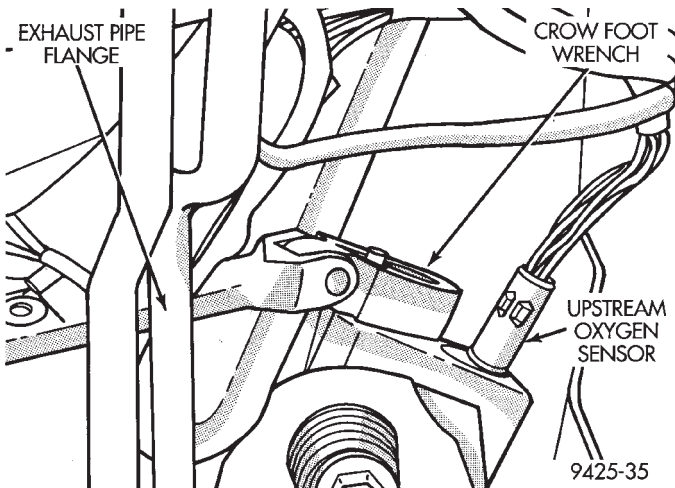

Fig. 90 Oxygen Sensor 1/1 Upstream
- (1) Raise and support vehicle.
- (2) Disconnect electrical connector from sensor.
- (3) Remove sensor using an oxygen sensor crow foot wrench such as Snap-On tool YA8875 or equivalent (Fig. 90).